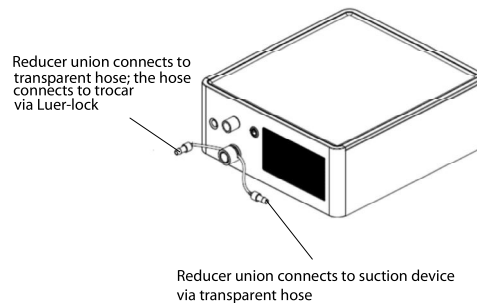

Figure 4-12 Connection diagram of the suction tube
3. Clip the slim tube into the groove of the smoke exhaust valve on the insufflator's front panel. To prevent the tube from collapsing, clip the middle of the $\Phi 5$ slim tube into the pinch valve and avoid twisting the suction tube. As shown in Figure 4-12.